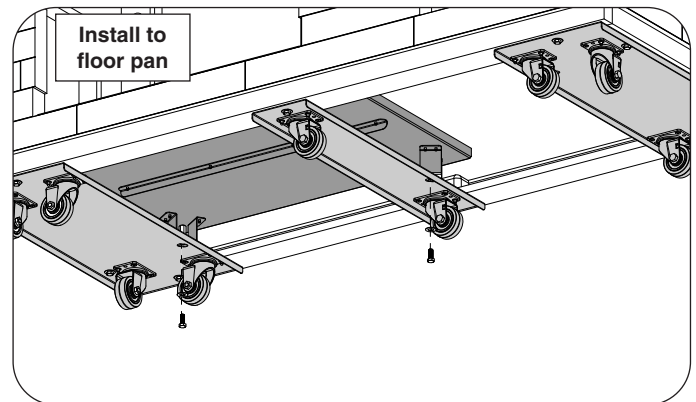

Fig. 5-3 Install floor pan, and fasten to left and center wheel assemblies
6. Place the floor pan as instructed in the island owner's manual, then fasten the left and center wheel assemblies to the floor pan as shown in Fig. 5-3.